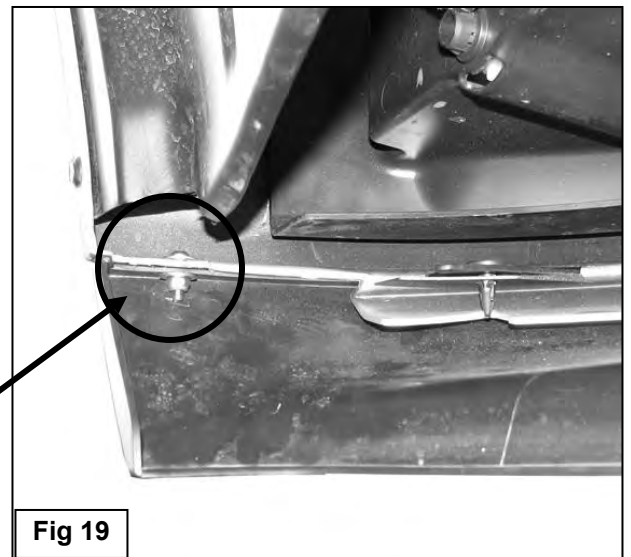

Fig 19
9. Reinstall the splash guard using the factory hardware. Use the included (2) 5mm x 15mm Allen Bolts, (4) 5mm Flat Washers and (2) 5mm Lock Nuts at the ends of the splash guard if required, **(Figure 19)**.